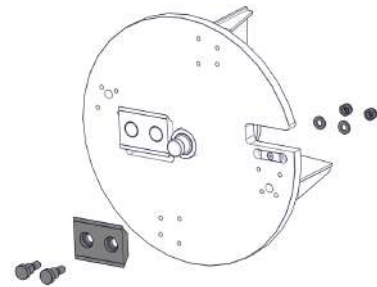

Figure 27 - Blade Mounting
14. Fit the blade to the rotor using the retaining bolts, washers and Nyloc nuts. The use of genuine Timberwolf blades and bolts is recommended (Figure 27).